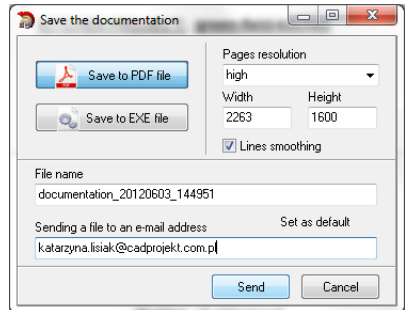

Fig. 316 – sending the documentation via e-mail
**Send**  - enabling to send the documentation via e-mail (Fig. 316);